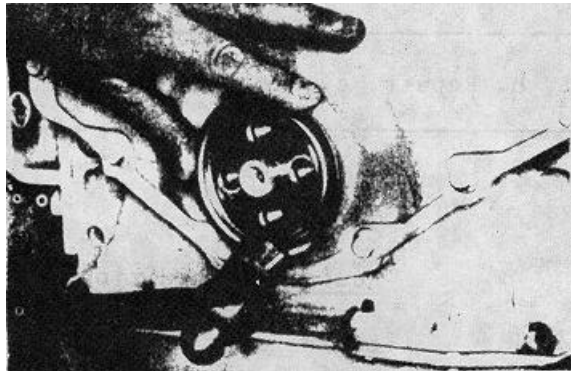

FIGURE 3-54. Install the Seal.
- i. Install the seal with the pre-packaged seal driver. (FIGURE 3-54)